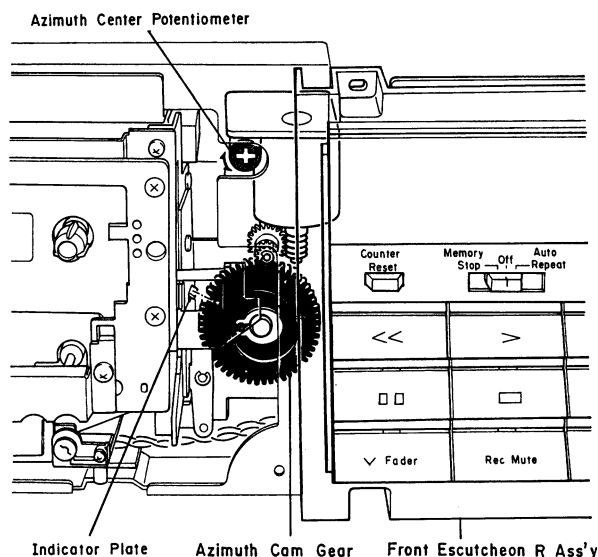

Fig. 3.5
- (1) Remove the Top Cover by loosening four screws and the Front Panel by loosening six screws.
- (2) Separate the Front Escutcheon R Ass'y from the Front Chassis by loosening four screws and slide it to the right to gain access to the Azimuth Center potentiometer.
- (3) Connect the Test Unit to CN-11 on the Logic P.C.B. Ass'y.
- (4) Turn ON the power and press the TEST button on the Test Unit.
- (5) Press the CENTER button on the Test Unit.
- (6) Adjust the Azimuth Center potentiometer so that the arrow mark on the Azimuth Cam Gear corresponds to the Indicator Plate of the Mechanism Chassis as shown in Fig. 3.5.
- (7) Press the TEST button twice.
- (8) Turn OFF the power, remove the Test Unit from CN-11 and assemble the Front Escutcheon R Ass'y, Front Panel and Top Cover.